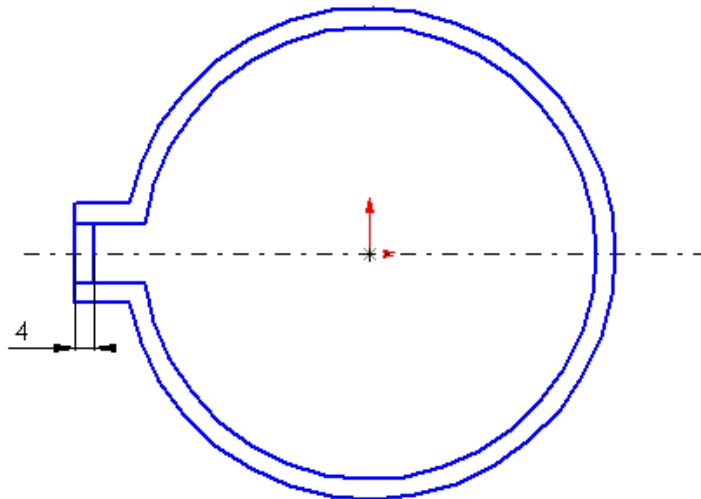

Figure 2-53 Sketch after extending the lines
6. Similarly, extend the upper horizontal line of the inner sketch. The sketch after extending the lines is shown in Figure 2-53.